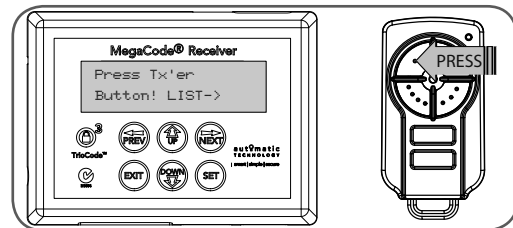

fig 12
3. Press transmitter once (Fig. 12).